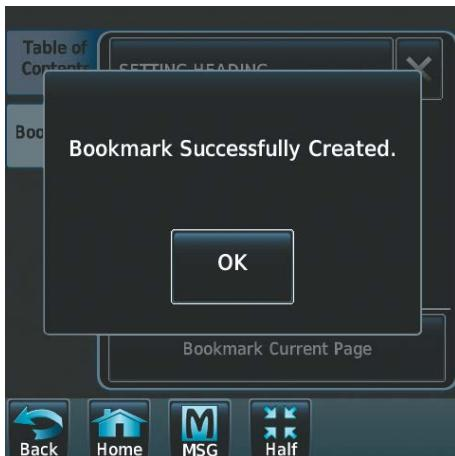

Figure 8-113 Create Bookmark
- 4) Touch **Enter**. A confirmation screen is displayed as seen in Figure 8-113.